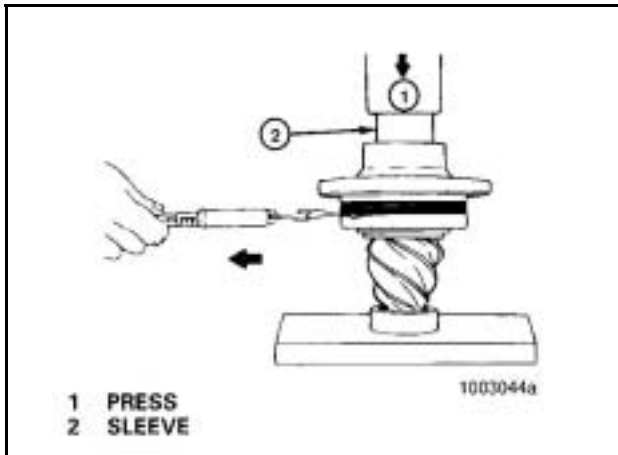

Figure 63
- Install a sleeve of the correct size against the inner race of the outer bearing. **Figure 63.**
- f. Pull the cord with scale on a horizontal line. As the bearing cage rotates, read the value indicated on scale. Write down and record the reading. **Figure 63.**